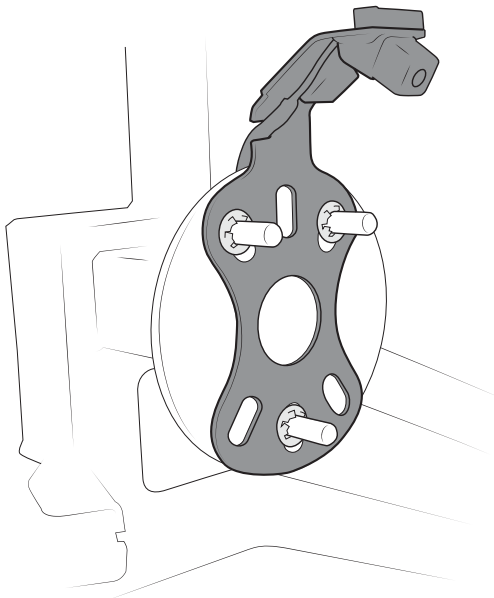

Figure 15
1. Mount the Camera/CHMSL (third brake light) bracket to the spare tire mount and secure with the supplied push nuts (fig. 15).